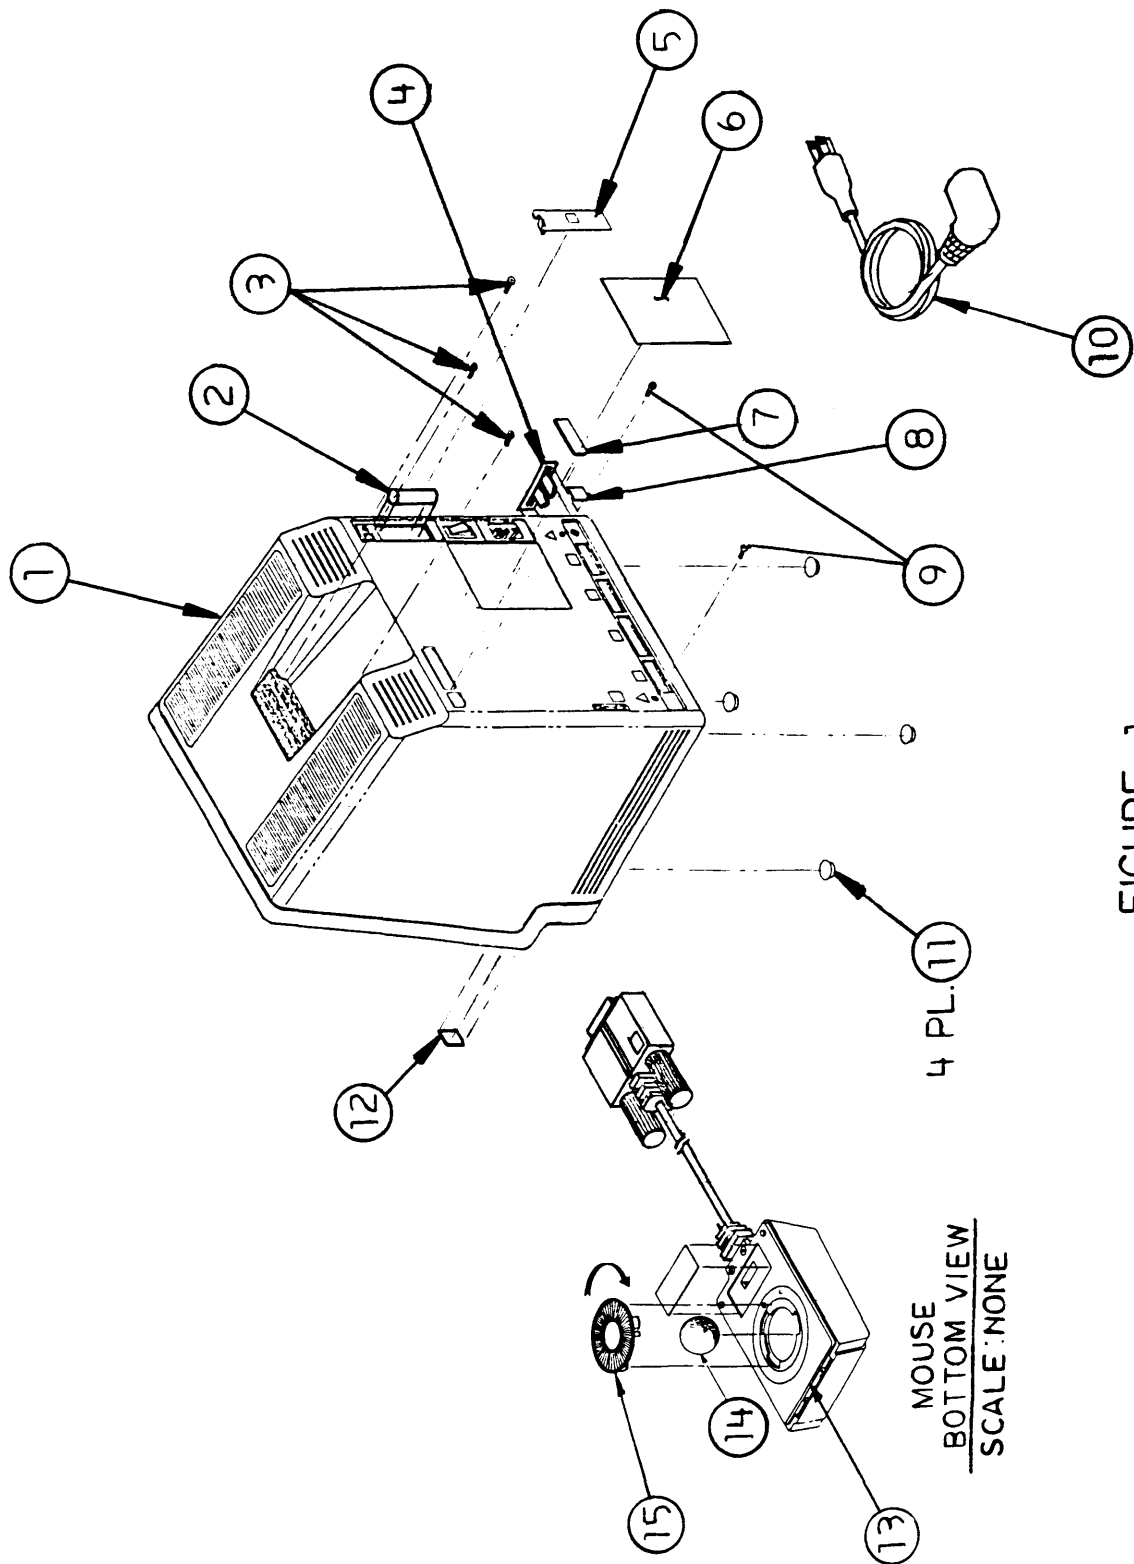

FIGURE 1
- 7.3 Macintosh External Housing (Figure 1)
□ MACINTOSH EXTERNAL HOUSING (Figure 1)